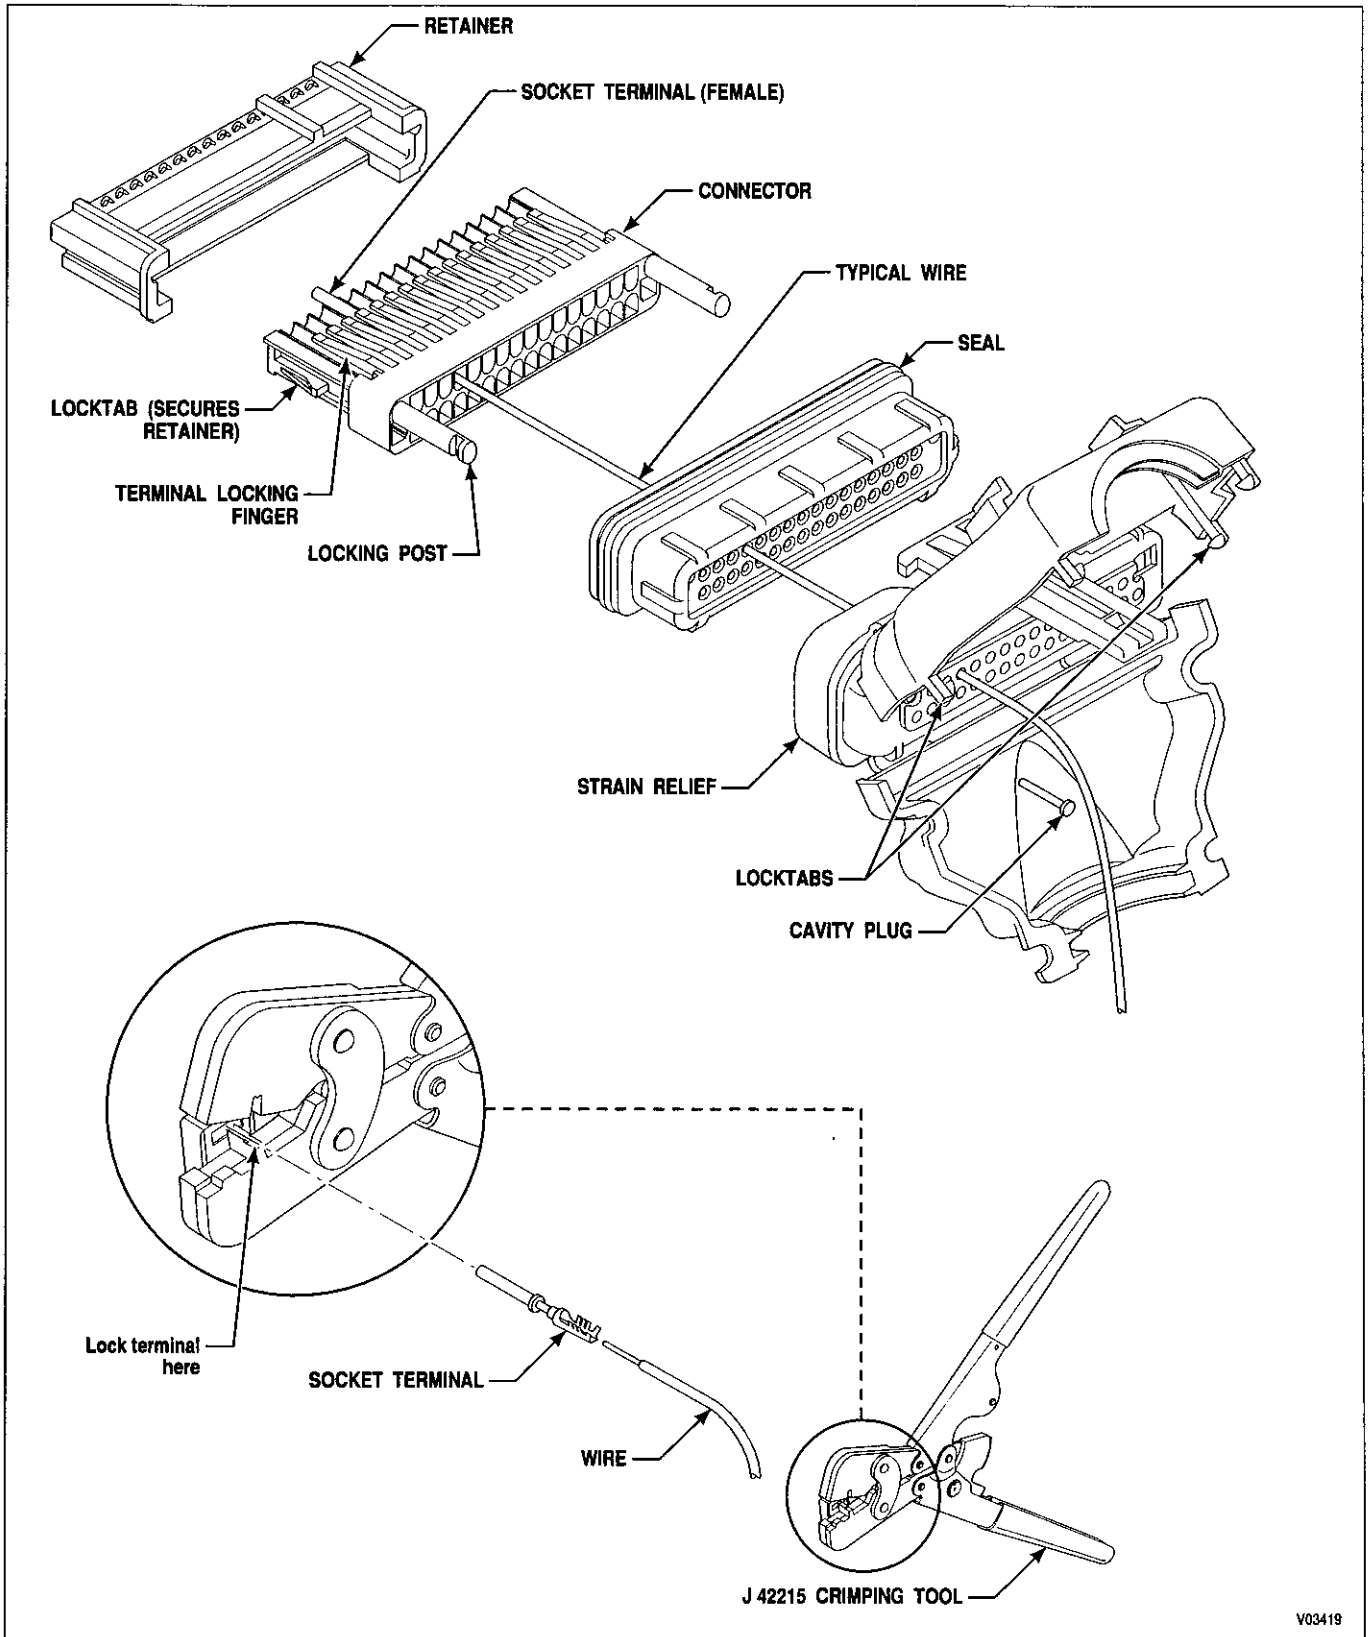

Figure E-1A. Delphi-Packard Micro Pack Connector (ECU)
1. ECU Harness Connectors (*Figure E-1A*)
5. Complete terminal installation of the ECU Connectors as follows: (*Figure E-1A*)